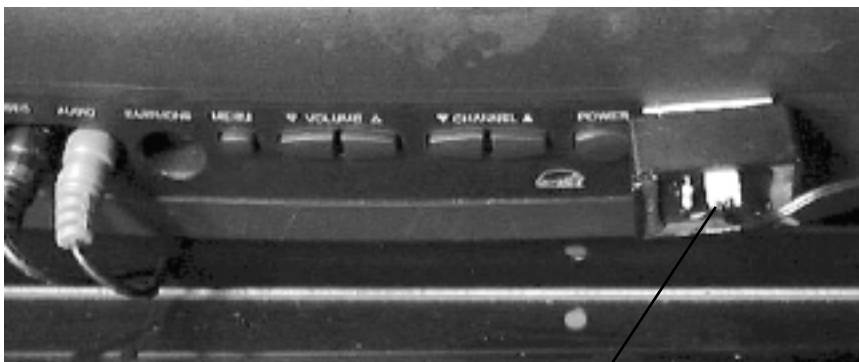

Figure 11
3. Locate the Television RCA cord, suspended from the fireplace top. Connect this cable to the jacks located at the front of the television. The red cable connector is for sound and connects to the audio jack at the front of the TV (*see Figure 11*). The other connector may be white or yellow. This connector is for the video and connects to the yellow jack in the front of the television.
Attach the IR transmitter to the television at the location shown in *Figure 11*. Placing this correctly is very important.